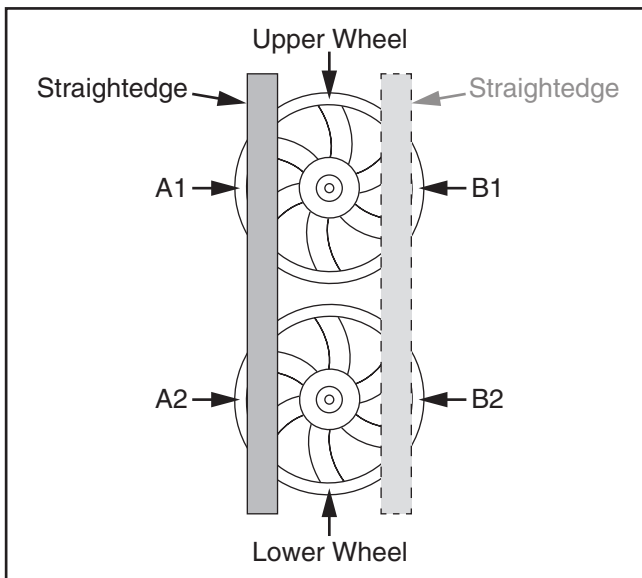

Figure 73. Example of using a straightedge to check lateral wheel alignment.
3. Check wheels at **A** and **B** locations (see **Figure 73**). The wheels should align.
4. Mark upper and lower wheels with a pencil or marker to indicate measuring locations (see **Figure 73**).